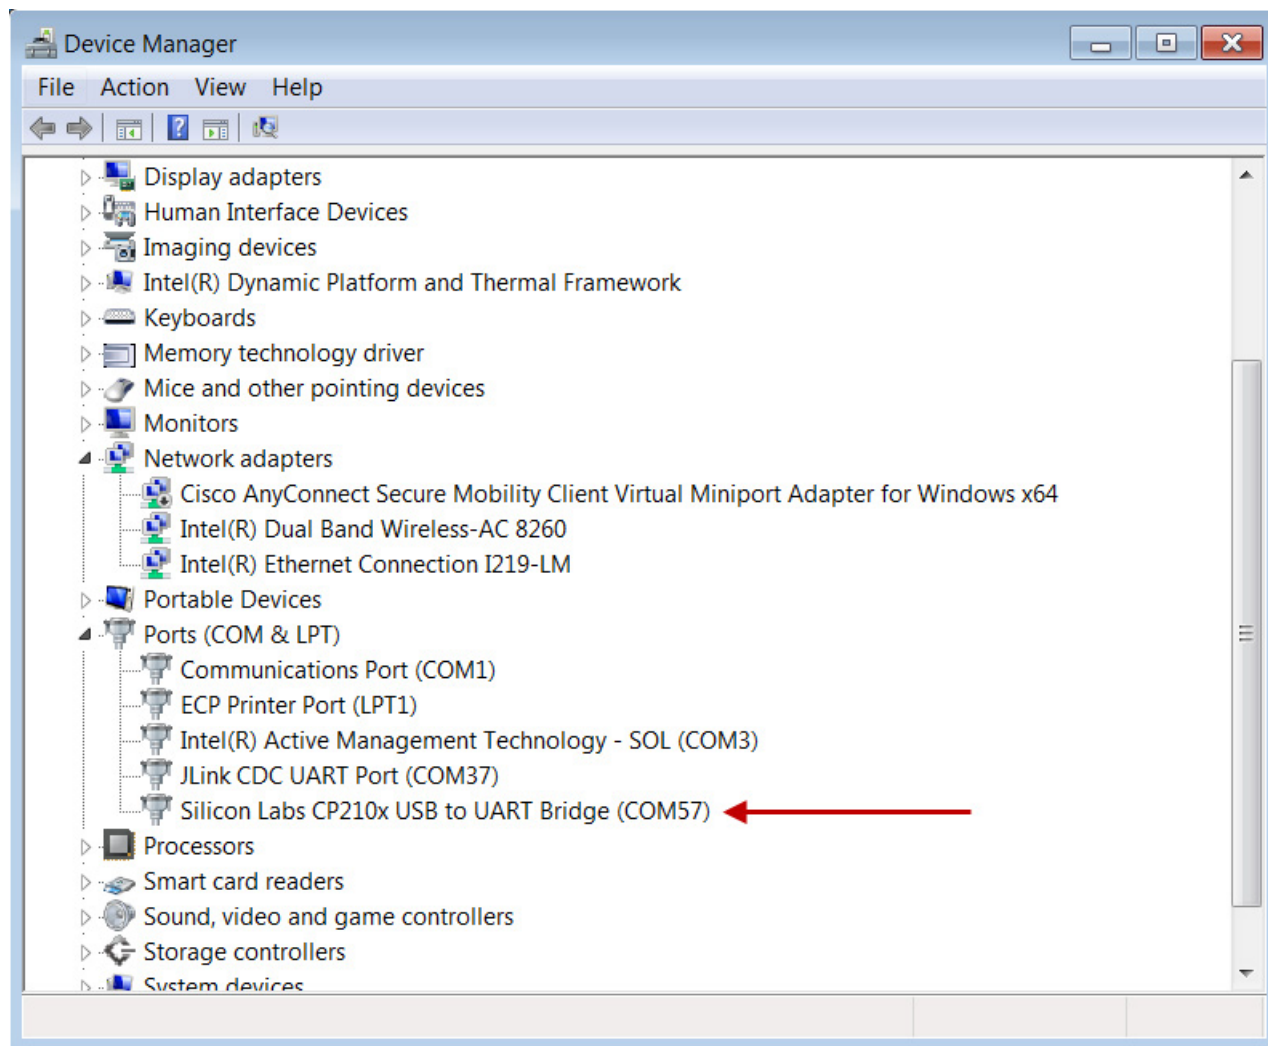

Figure 1. Assigned COM Port
3. Open the windows Device Manager and check which com port has been assigned (see Figure 1).